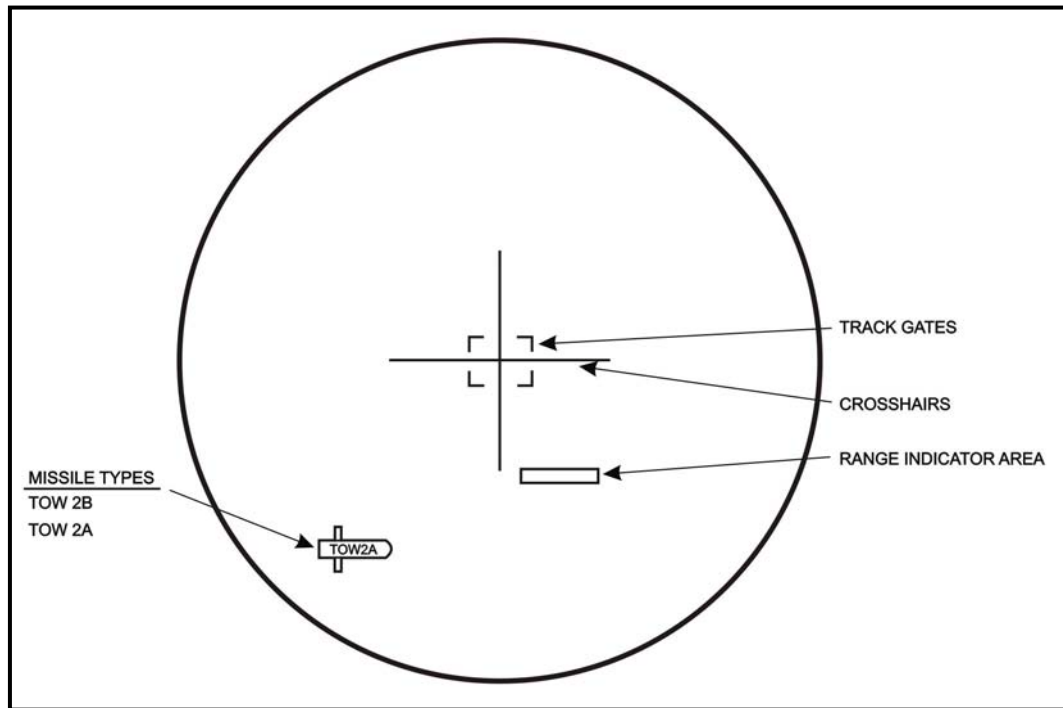

Figure 2-28. Display indicators.
b. **Display Indicators.** The display indicators are used during target engagement both in manual and tracker mode. Display indicators for the TAS include missile types, range indicator area, crosshairs, and track gates (Figure 2-28).
(1) **Missile Types Indicator.** This indicator tells the gunner what type of missile has been loaded and armed in the launch tube. A missile type indicator is displayed on the lower left side inside the TAS as a symbol of a TOW missile (Figure 2-28).